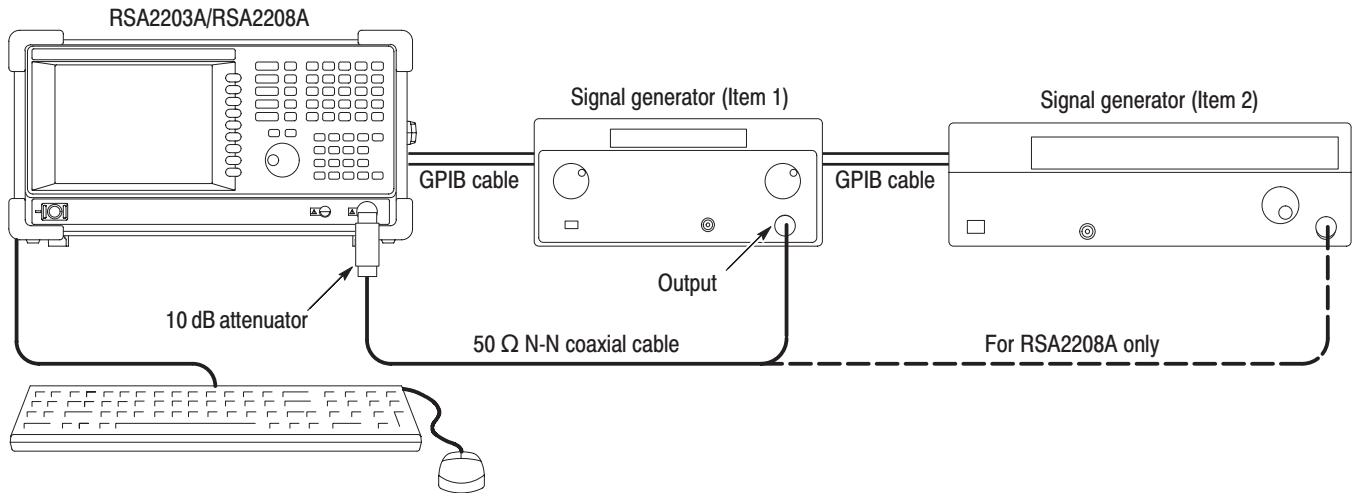

Figure 4-6: Initial test hookup
- b.** Connect the N-N cable to the signal generator (Item 2) output. See Figure 4-6 on page 4-12 again.